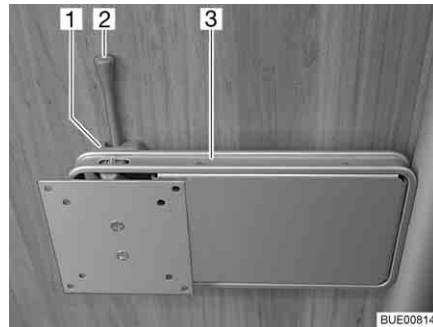

Fig. 48 Holder on the column
- Push the release lever (Fig. 48,2) to the side and turn the holder (Fig. 48,3) with the flat screen to the desired position.
- Turn flat screen back until the holder (Fig. 48,3) engages in the lock (Fig. 48,1).